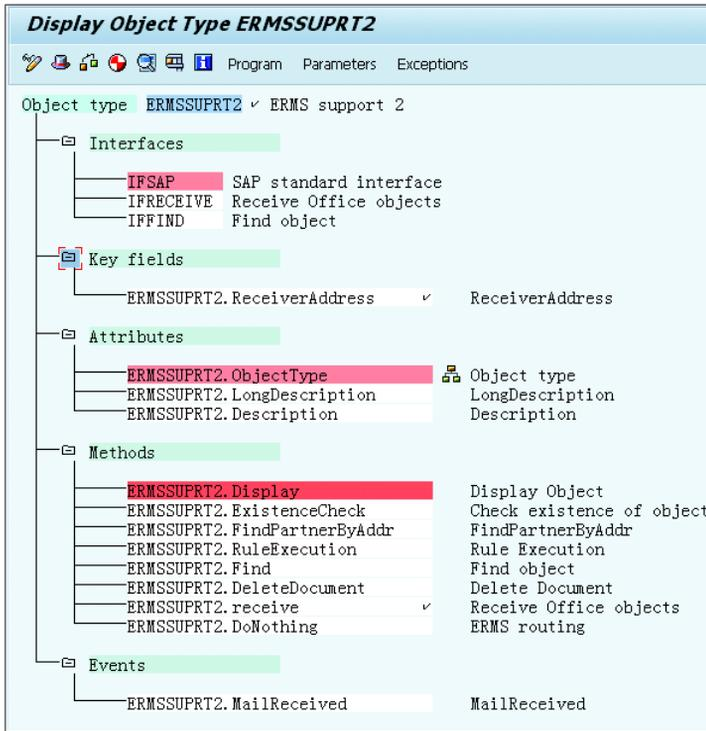

Figure 9.45 Object Type: ERMSSUPRT2 ERMS Support 2
5. Object type ERMSSUPRT2 is executed when the customer sends an email to the email ID assigned to the new recipient ERMSSUPRT2. This initiates the ERMS object type, as shown in Figure 9.45. The methods within this object type are initiated, and after the processing of the object type is completed, the event MailReceived triggers the workflow 200001 ERMS1, which triggers the service manager profile assigned to the receiving email ID.